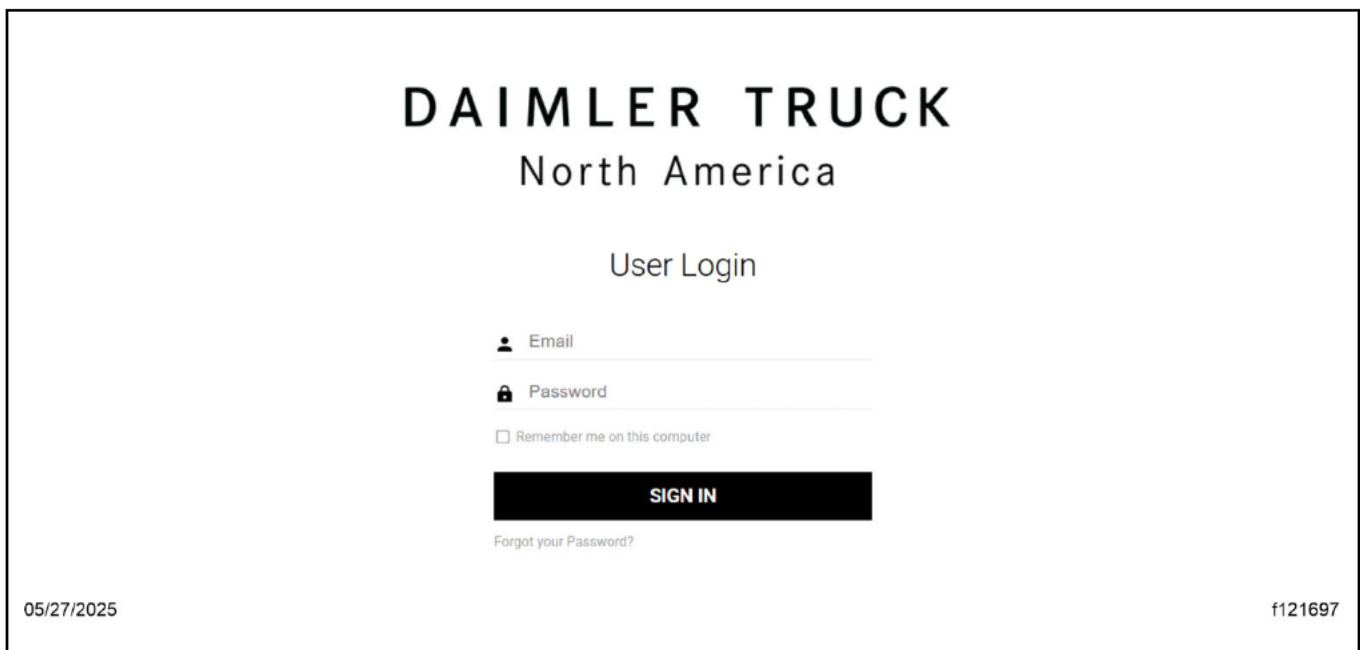

Fig. 4, Sign In Page
4. Enter the 4-digit alphanumeric dealer code for the corresponding dealer location in both the 'Email' and 'Password' fields, then select 'SIGN IN.' See Fig. 4.